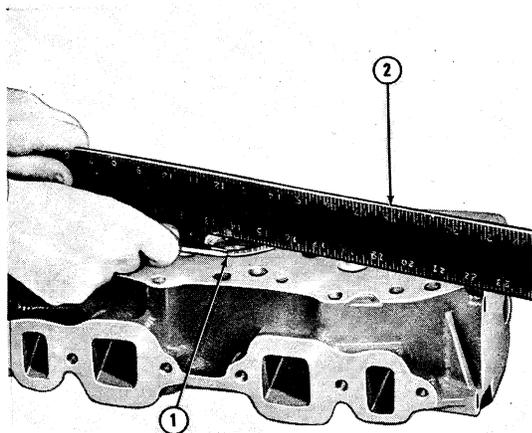

Figure 8
- Check the flatness of the cylinder head with a straight edge, Figure 8. Flatness specification is 0.006 in. (0.15 mm) overall or 0.003 in. (0.08 mm) in any 6 in. (152 mm).